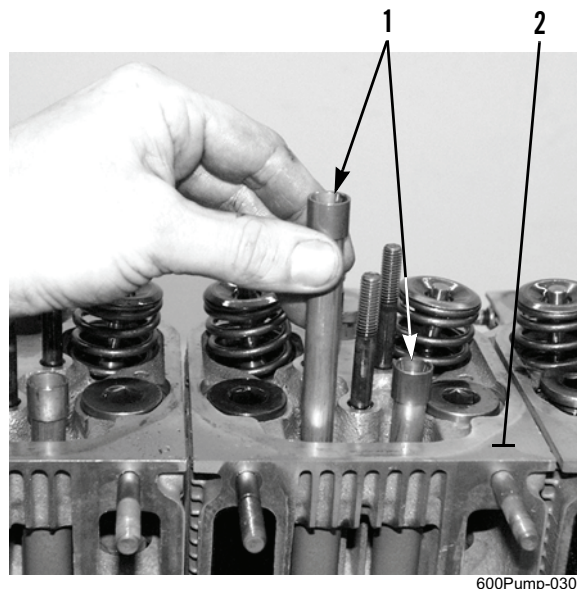

Figure 1. Pushrods.
1. Remove two pushrods (Figure 1, Item 1) from cylinder head (Figure 1, Item 2).